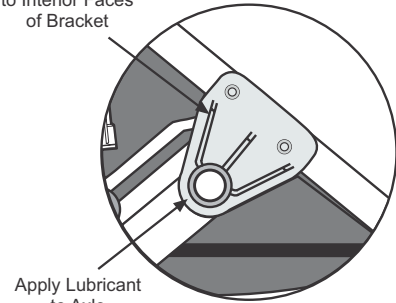

Fig. 27
**STROLLER CARE and MAINTENANCE :** The fabric is 100% polyester with a stain resistant treatment that makes cleanup easy. Use a sponge with a solution of mild soap and lukewarm water (maximum temperature of 100 degree Fahrenheit). Rinse thoroughly with clean water to remove soap then air dry. Do not use detergent. Regular maintenance should include: Verifying tire pressure, verifying that all screws and fasteners are tight, and wiping parts clean with a rag. To reduce the possibility of squeaks, periodically apply a small amount of lubricant (Triflow, 3-in-one, or light sewing machine oil) to the frame pivot axle and interior faces of the pivot bracket, as shown in figure 27.